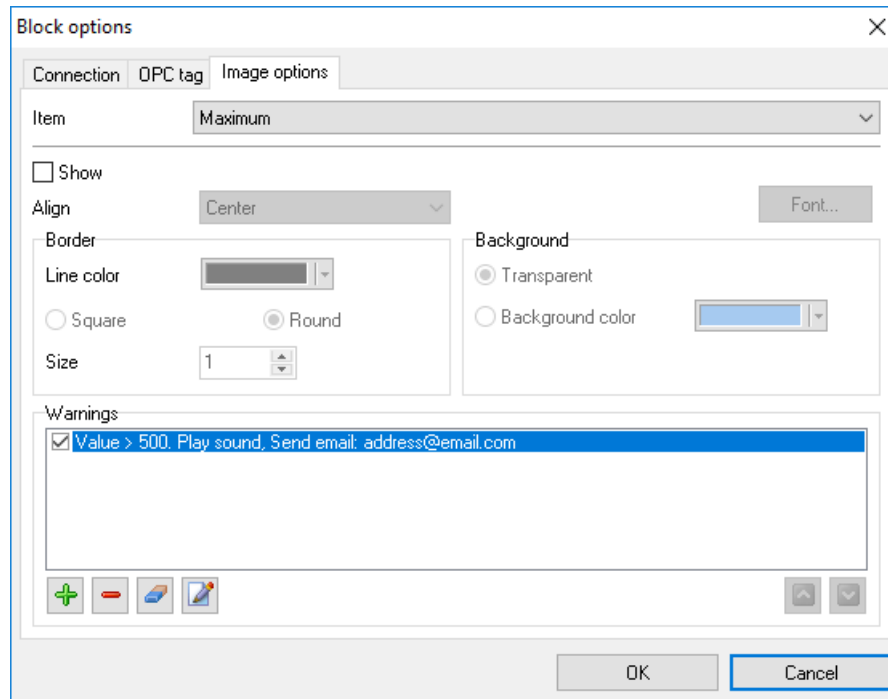
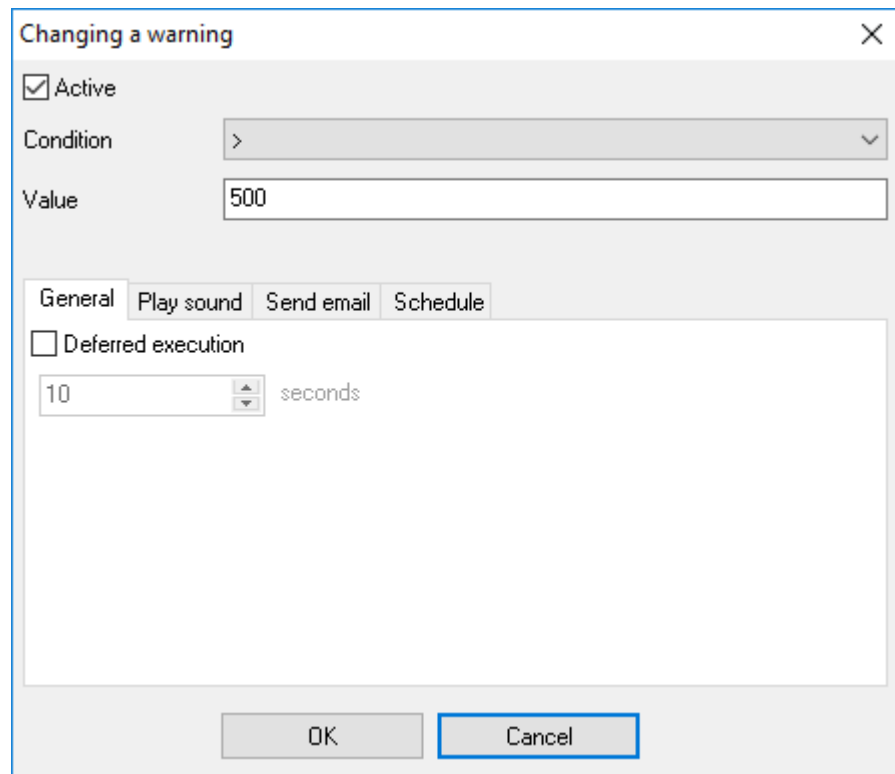

Fig. 8. Element parameters.
Fig. 9. Warning parameters.
6. **Minimum and maximum values for the OPC tag** - this parameter allows you to specify one or several conditions (fig.8) that will serve as a limit for the acceptable values of the tag. If the value exceeds the specified limit, the program will show a warning.
You can do the following for every element in a visualization block (fig.9):
You can specify the list of conditions for the "Value", "Minimum" and "Maximum" elements (fig.8). If they are met, the program will display warnings and play the specified sound. To add a warning, select the corresponding element in the list and click the "Plus" button. After that you will see the dialog box where you should specify the necessary parameters (fig.9). Other buttons next to it are used for the following operations (left to right):